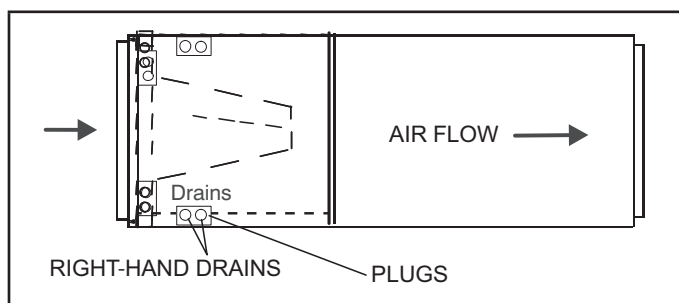

FIGURE 4. Right-Hand Discharge Configuration
- 4 - The horizontal configuration is shown in figure 4.